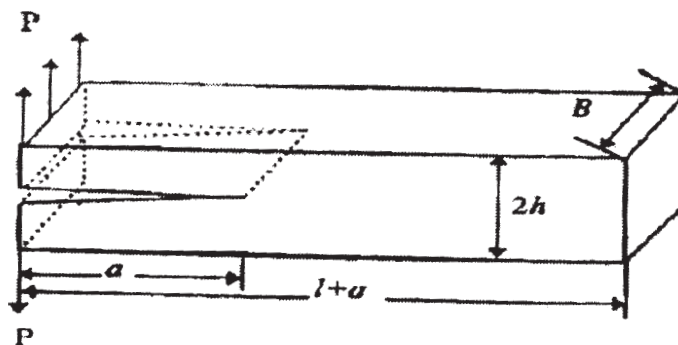

Fig.1 Double cantilever beam
b) Determine the strain energy release rate for a double cantilever beam with $a \gg 2h$ and $l \gg 2h$ (shown in Fig. 1), where P is the applied load and B is the width of the beam. **[10]**